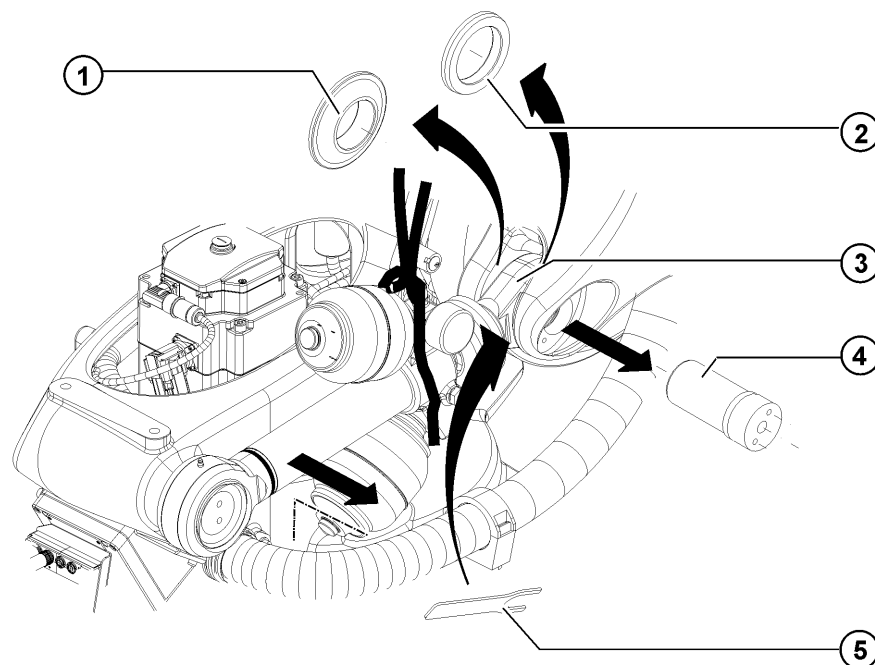

Fig. 11-22: Removing the counterbalancing system: pin
10. Insert the pin locator on the right-hand side between the articulated head and the link arm (>>> Fig. 11-22).